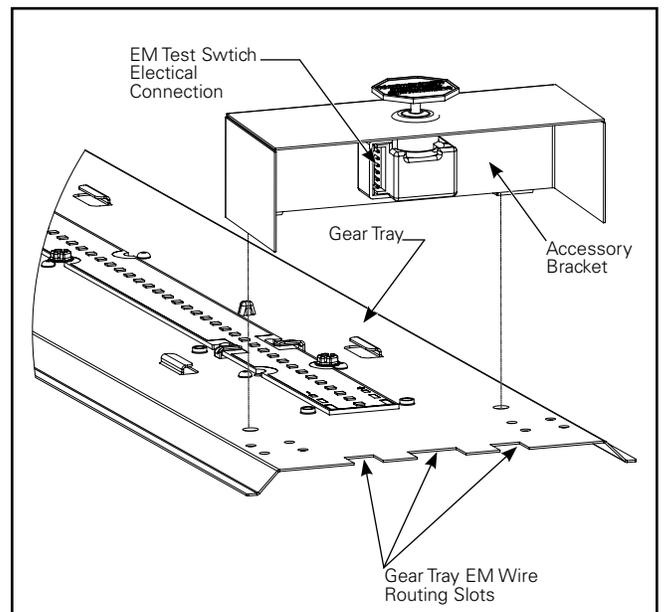

Figure 9.
11. Connect the EM unit white cable connector to the test switch and then reinstall the accessory bracket, making sure the cable is inside of the accessory bracket (Figure 9). Wire incoming power connections (ensure power is off).